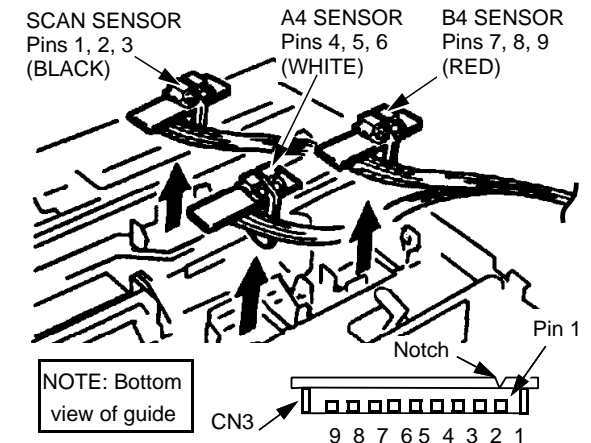

Figure 4. Document sensors
1. Refer to figure 4 to install the sensors. Color codes or pin locations can be used to install the sensors in the correct locations.